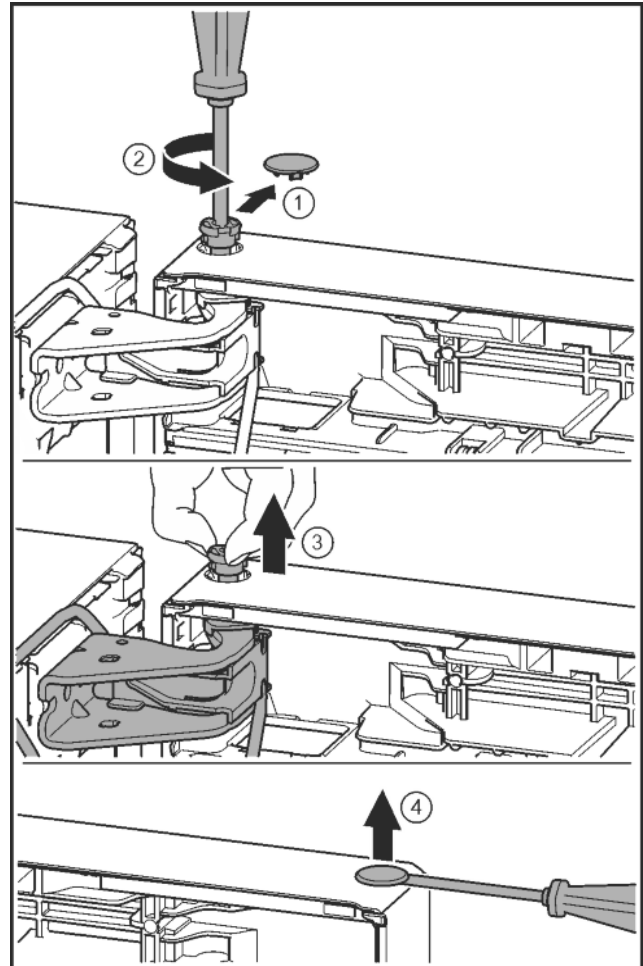

Fig. 23
- ▶ Carefully remove the safety cover. Fig. 23 (1)
- ▶ Undo the bolt a little with a T15 screwdriver. Fig. 23 (2)
- ▶ Hold the door and remove pins with your fingers. Fig. 23 (3)
- ▶ Carefully lift the plugs out of the door bearing bush with a slotted screwdriver and remove. Fig. 23 (4)